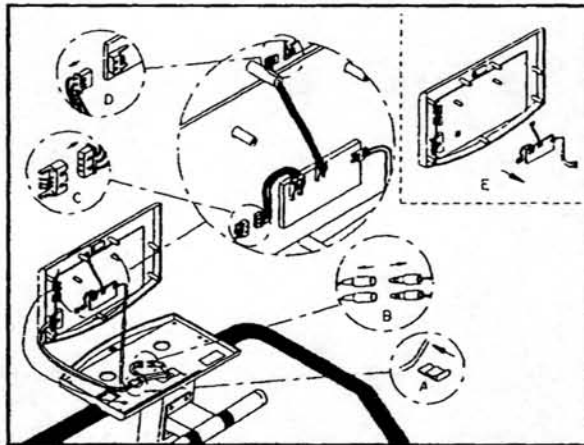

Fig.16-2
2. Remove the cable of the ELECTRONICS PACKAGE WHICH POSSESSES THE HTR BOARD AND THE POLAR RECEIVER from the CABLE CLIP (see fig.16-2 & enlarged figure A)
Unplug the connectors and harnesses which connecting the RIBBON CABLE OF THE ELECTRONICS PACKAGE (see fig.16-2 & enlarged figure B, C, D).
Take the ELECTRONICS PACKAGE WHICH POSSESSES THE HTR BOARD AND THE POLAR RECEIVER off from the PANEL (see fig.16-2 & enlarged figure E).